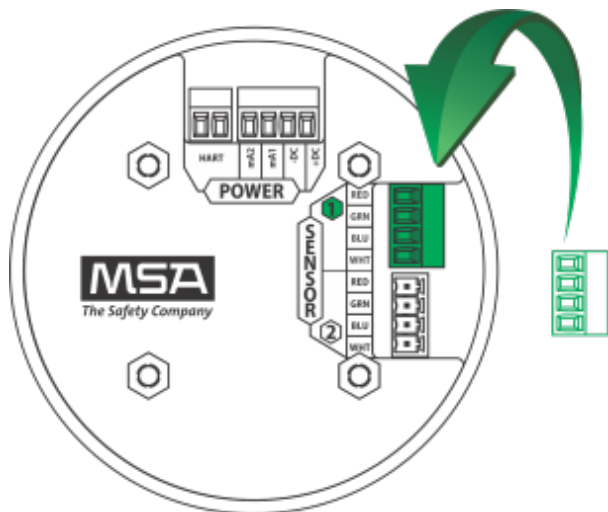

Figure 32 Connecting a Sensor to the Board
12. Replace the board stack by aligning the four metal standoffs with the four holes inside the ULTIMA X5000 housing. Push firmly on the board stack where indicated (see Figure 32).